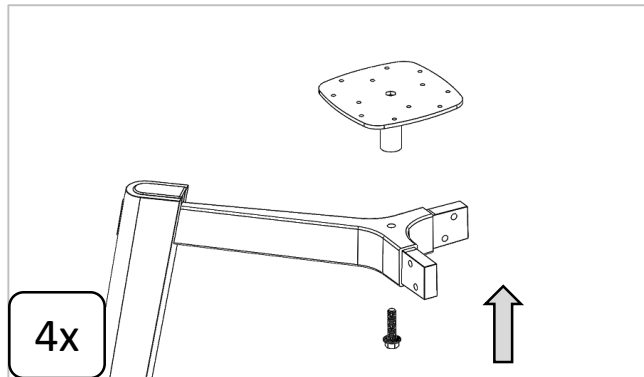

Figure 5.1
4. Repeat Steps from Figure 5.1 to 5.3 using the the Mid-Leg Assembly.